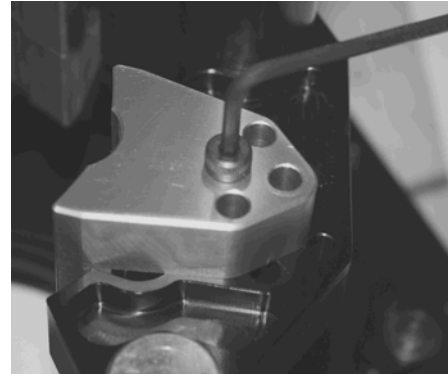

Figure 2
1. With a 1/8" hex key, remove one of the 1/4" shoulder bolts from one of the clamping blocks and slide the clamping block on the carriage (Figure 2)